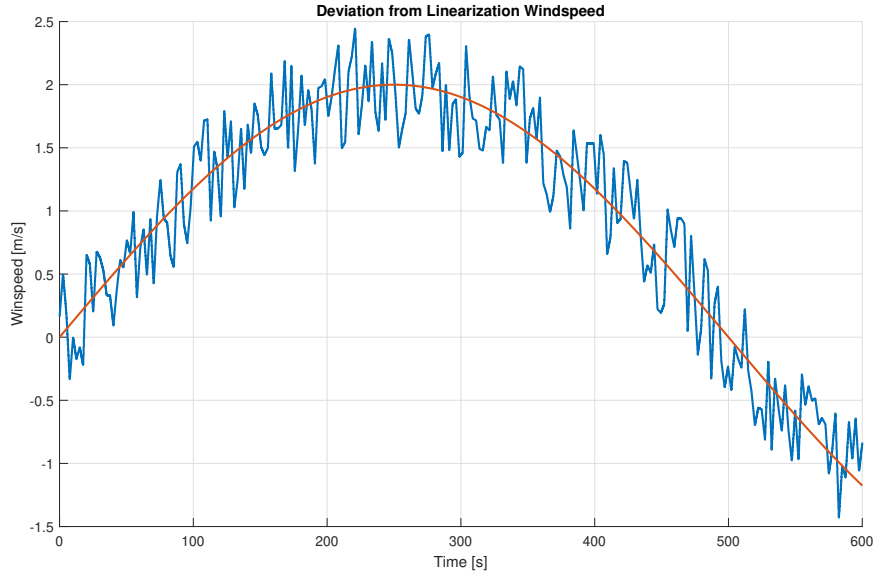

Figure 3: Theoretical wind profile for 10 minutes as experienced by the wind turbine.
In this section, we will explore an alternative way to design controllers using the robust control toolbox. For this section we consider the wind turbine running at its rated power, that is, the maximum power it can output. Any change in rotational velocity that is caused by a change in wind speed needs to be counteracted by either a change in blade pitch angle β or generator torque τ_e . Figure 3 shows a typical wind profile the wind turbine encounters during operation. We recognise a low frequent part (a sin wave with a period of around 1000 seconds) and some high-frequency turbulence.
(KS) (2 weights) and a weight on the sensitivity function (S) (1 weight) such that when your system is subjected to the input of Figure 3 the torque control input is only used for the high-frequency inputs and blade pitch for low-frequency inputs (< 0.5 Hz). The error is defined as the deviation from the linearized rotational velocity due to the changing wind speed. *For this part of the assignment we will only take ω_r as the output of the system.* The following exercises will help you on your way: